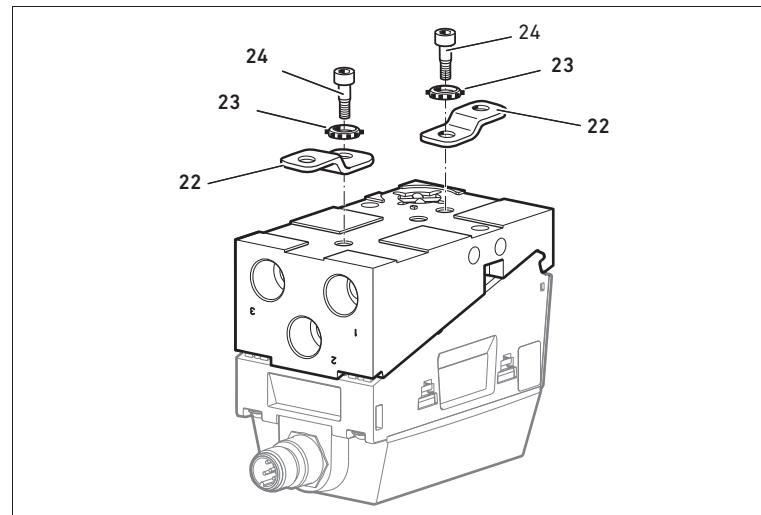

Fig. 7: Mounting kit for mounting plate assembly
- 2 mounting panels (22)
- 2 toothed lock washers (23)
- 2 cylinder head screws (WS 4) (24), tightening torque: 6 Nm
1. Assemble the mounting kit for the mounting plate as shown in Fig. 7.